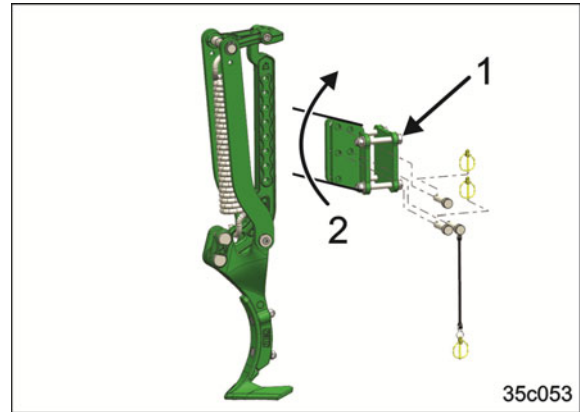

Fig. 120
5. Remove the fixing bolts from the wheel mark eradicator bracket (Fig. 120/1)
6. Turn the wheel mark eradicator bracket upwards (Fig. 120/2)
7. Insert the fixing bolts of the wheel mark eradicator bracket and tighten them (Fig. 120/1)